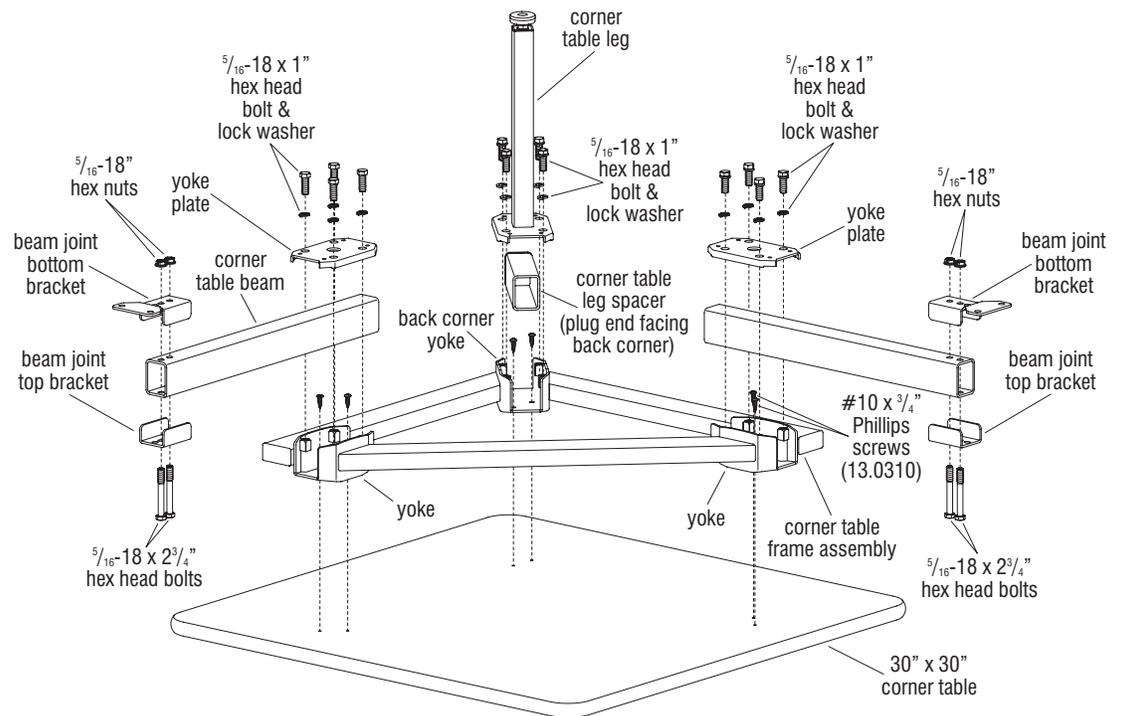

Figure 2
6. Carefully unpack all corner table parts, set them out and identify all components required for corner table assembly (Figure 2).
8. Take a corner table leg spacer in hand, orient it so the plugged end faces the back corner of the table frame, then set the table leg spacer into the back-corner yoke of the frame. Place a corner table leg over the spacer and yoke of the frame then secure with four 5/16”-18 x 1” hex head bolts and lock washers as illustrated. Torque bolts to 21 ft/lb in a diagonal pattern (Figure 2).
9. Locate a corner table beam and position a beam joint top bracket and beam joint bottom bracket over the two mounting holes at one end as illustrated. Insert two 5/16”-18 x 2 3/4” through and secure using two 5/16”-18 hex nuts (Figure 2 & Detail A).
10. Repeat step 4 above for the second corner table beam (Figure 2 & Detail A).
11. Orient the two assembled corner table beams such that the beam joint bottom bracket is face up (upside-down for installation). Position the two assembled corner table beams into the remaining two yokes of the corner table frame as illustrated. Place a yoke plate onto each beam and yoke of the corner table frame, then insert and loosely tighten four 5/16”-18 x 1” hex head bolts and lock washers. Tightening is not required at this time because adjustment is required later (Figure 2).